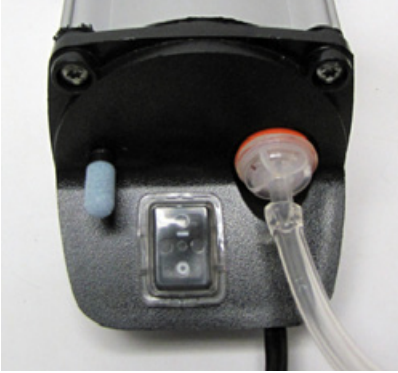

Fig. 22—Connect to the pump
1. Press the large tubing over the nipple on the pump. Press the other end over the large connector on the waste reservoir (Fig. 22).